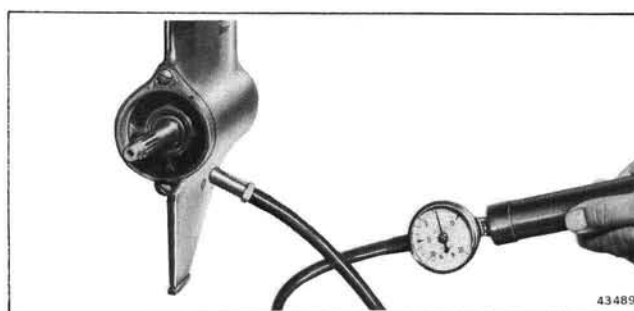

Figure 6-59. Gearcase Pressure Test
- a. Remove drain plug and screw in a pressure test gauge. See Figure 6-59. Stevens Experimental pressure test gauge illustrated.